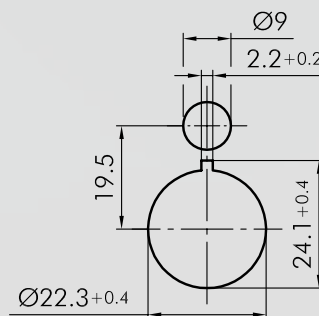

Fig. 2: mounting hole for illuminated E-stop
- 2) For actuators with illuminated protective shroud provide a second hole following the relative assembly drawings in the catalogue (Fig. 2).
- 9) For actuators with illuminated collar put the plug for lighting through the relative hole in the mounting plate and connect it to the actuator. (Fig. 2 and 3)